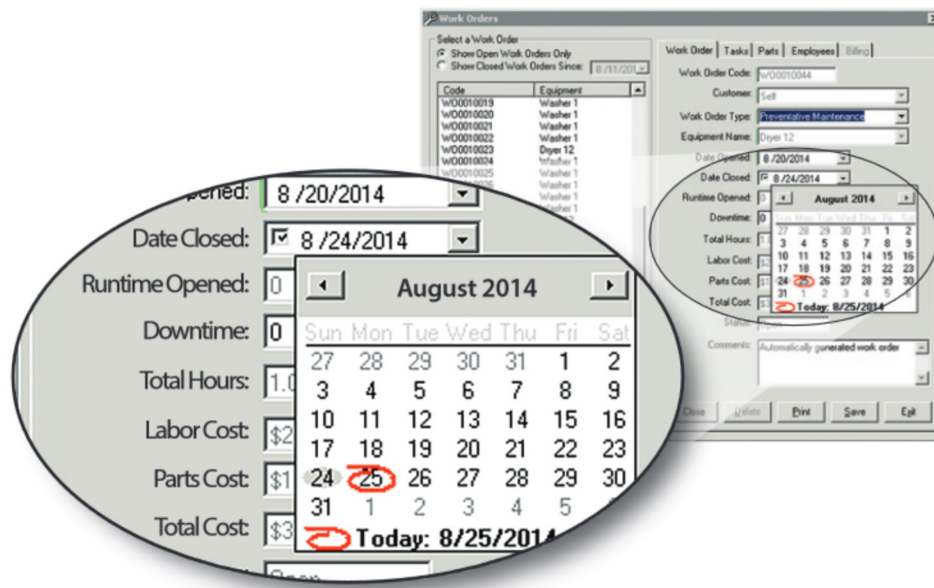

Figure 43. Work Orders: setting the **Date Closed**.
4. Check the box in the field to accept the current date, or click the drop-down to select a date (see Figure 43).